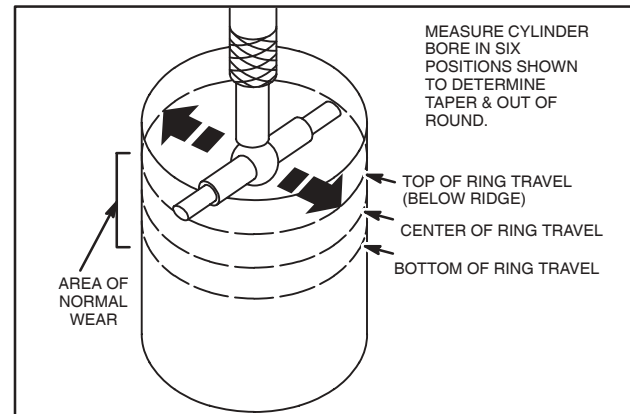

Fig. 3 – Checking Cylinder Bore
3. Check cylinder bores for wear, Fig. 3.
- Measure cylinder bore in 6 points at right angles as shown, Fig. 3.